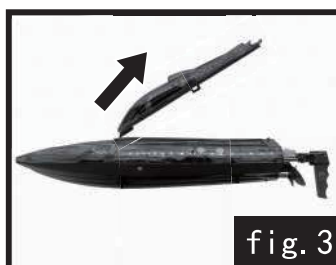

fig. 3
2. Open the cabin cover, fig. 3.